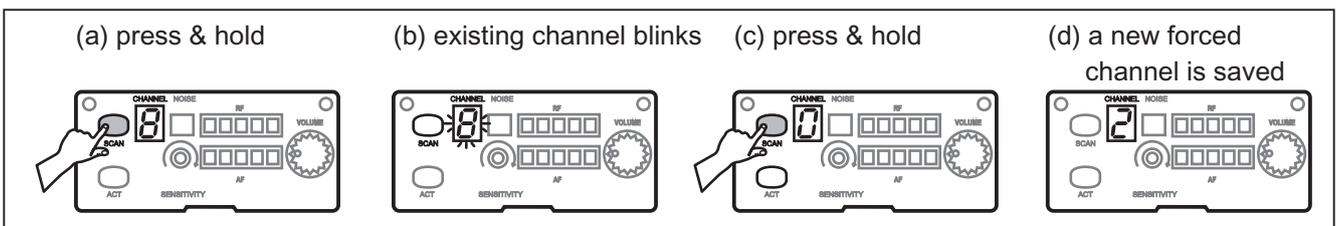

Fig. 6
(2) Manually Searching for a Receiver Channel:
Press and hold Channel (CH) button **A6** to perform a manual channel search. Existing channel blinks to denote it is ready to accept parameter changes. During blinking, press and hold Channel button to force the channel to go forward to the next channel in order. Release Channel button until a desired channel is located. This new channel is now saved. If Channel button is not pressed within six blinks, it stops blinking and reverts back to the existing channel. Fig. 6